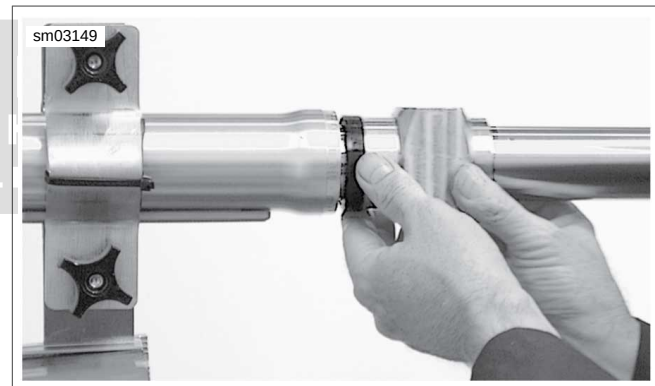

Figure 2-193. Install Seal Components
4. See Figure 2-193. Assemble the FORK SEAL DRIVER (Part No. B-42571) over fork slider in front of oil seal with the long end of tool facing seal and assemble in the following order: Install bushing, spacer, and drive fork seal into fork tube bore with tool until tool is flush with fork slider.